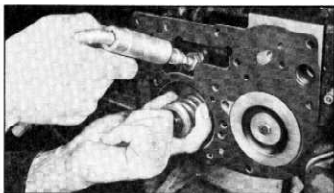

Fig. 126—Adjusting Reverse Servo
8. Hold the reverse servo return spring in one hand and with the other slowly tighten the reverse servo adjusting screw with tool J-4277 until endplay, as felt by push-pull on piston assembly, is just taken up (fig. 126). Then back off adjusting screw $\frac{1}{8}$ to $\frac{1}{4}$ turn and tighten nut securely. This is a sensitive adjustment and must be done carefully. When end play movement of the piston is